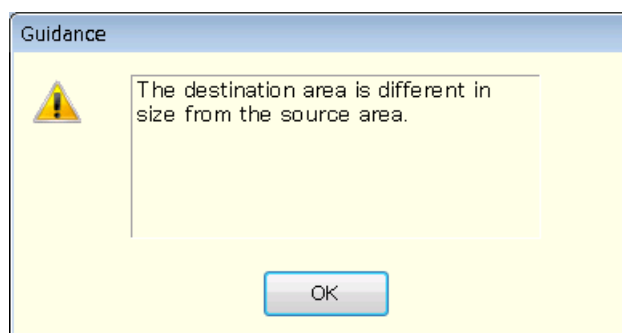

Figure 6-9 Error Dialog for Copying Data
- Row numbers and column items should be matched between the destination data range to be pasted and the source data range that was copied to the clip board. If the data ranges do not match, the error dialog shown in Figure 6-9 appears.